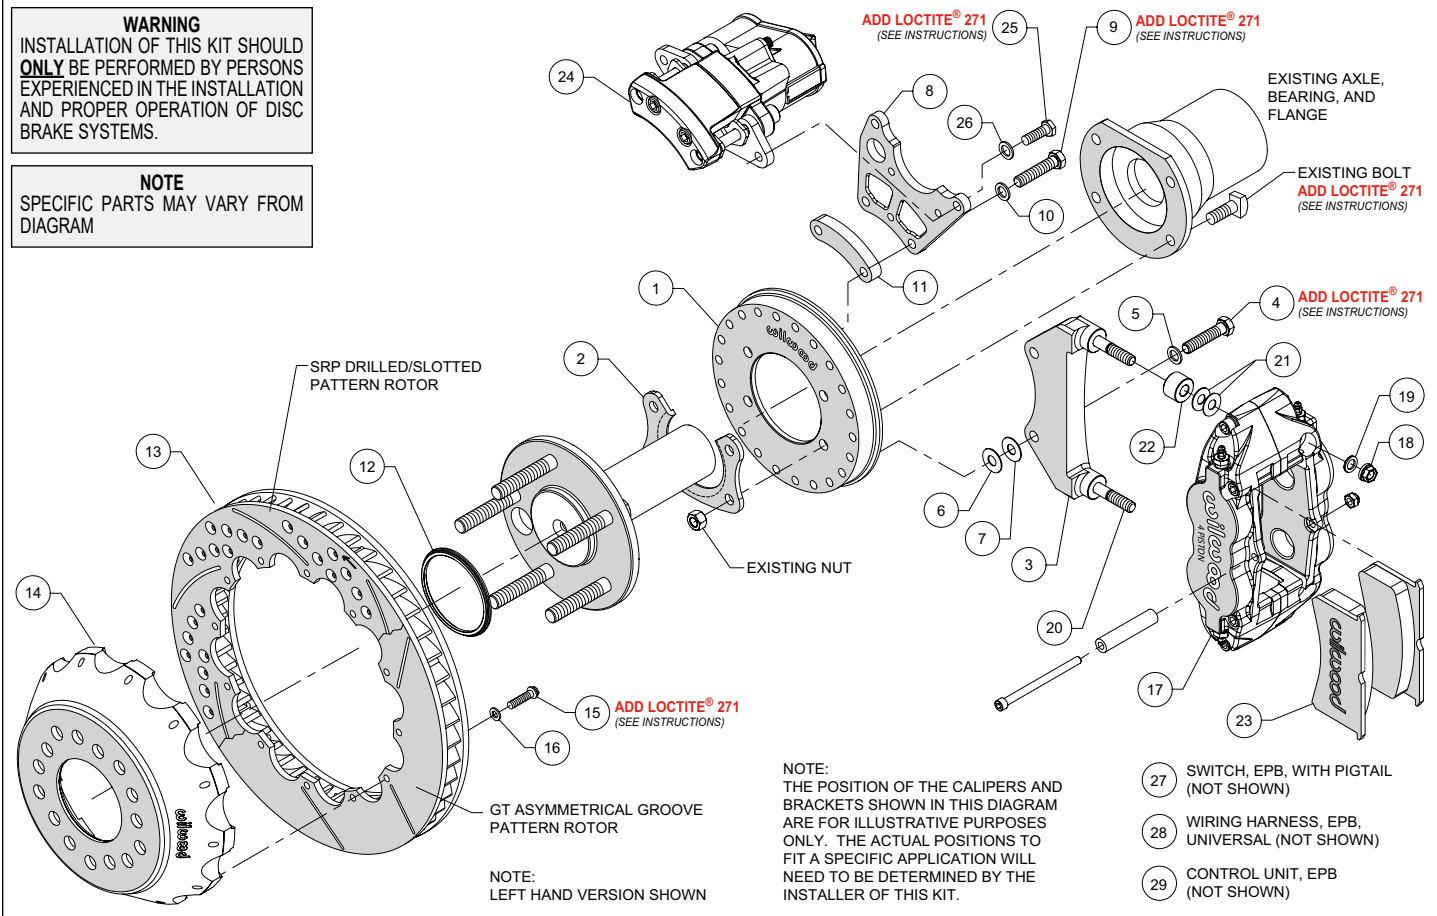
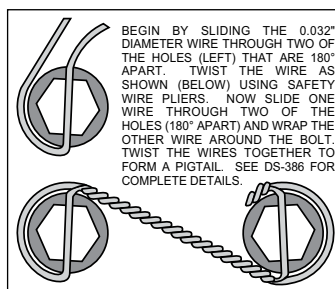

Figure 1. Typical Installation Configuration
Figure 5. Safety Wire Diagram
NOTE: Numbers in parenthesis refer to the parts list and Figure 1 on the preceding pages.
- Orient the backing plate (1) as shown in Figure 1 and Photo 1, and slide it onto the axle housing flange. Ensure the backing plate fits flush against the axle housing flange. Reinstall the axle into the axle housing.
- Install the bearing retainer (2) with the opening pointing upward and the lip facing inward (toward the bearing), as shown in Figures 1 and 4, and Photo 2. Secure retainer and backing plate to the axle housing flange using the Original Equipment Manufacturer (OEM) bolts and nuts, Figure 1 and Photo 3. Apply red *Loctite*® 271 to the OEM bolt threads and torque to OEM specifications.
- Start by determining the best location for the service caliper (17). This caliper is usually mounted in the 3:00 or 9:00 o'clock position, but may be rotated up or down approximately 45 degrees and still allow for proper bleeding, Photo 4. Orient the service caliper bracket (3) as shown in Figure 1 and Photo 5, and install to the backing plate (1) in the desired location using bolts (4) and washers (5). Temporarily tighten bolts. Next, mount the service caliper onto the bracket. Mount the service caliper using lock nuts (18) and washers (19), Figure 1. Temporarily tighten the lock nuts. Check that the caliper (including inlet fitting and hose) has sufficient clearance to all surrounding components through the full suspension travel. Relocate the caliper/bracket on the backing plate as needed to ensure proper clearance is achieved.
- Determine the best location for the EPB caliper (24). **NOTE:** *The EPB caliper motor extends farther inboard than the service caliper and therefore needs additional consideration when determining a mounting location with sufficient clearance.* In the example application shown in Photo 6, the EPB caliper has sufficient inboard clearance to the leaf spring. However, if the EPB caliper were mounted closer to the 12:00 o'clock position, the inner body of the vehicle would hit the caliper during full compression of the suspension.
•Orient the EPB caliper bracket (8) as shown in Figure 1 and Photo 7, and install to the backing plate (1) in the desired location using bolts (9), washers (10), and spacer (11). Temporarily tighten bolts. **NOTE:** The EPB bracket is reversible. In one direction the bracket will position the EPB caliper closer to the service caliper, and vice versa if reversing the bracket. Next, mount the EPB caliper (24) to the bracket using bolts (25) and washers (26). Temporarily tighten bolts. **NOTE:** EPB calipers are Left and Right handed, however they can be used on either side of the vehicle to best suit your specific application. Check that the EPB caliper (including wiring harness connector) has sufficient clearance to all surrounding components through the full suspension travel. Relocate the EPB caliper/bracket on the backing plate as needed to ensure proper clearance is achieved.
•Once the caliper positions have been determined, remove both the service (17) and EPB (24) calipers, leaving both brackets in place on the backing plate. For the EPB bracket, remove the bolts one at a time, apply red Loctite® 271 to the threads, and torque to 35 ft-lb. The service caliper bracket will be final installed after shimming is determined.
•Orient the rotor (13) and the hat (14) as shown in Figure 1 and Photo 8. Attach rotor to hat using bolts (15) and washers (16). Apply red Loctite® 271 to the bolt threads and torque to 155 in-lb using a criss-cross pattern. For an added measure of security, the bolts may be safety wired using standard 0.032 inch diameter stainless steel safety wire as shown in Figure 5. Please refer to Wilwood's data sheet DS-386 (available at www.wilwood.com/Pdf/DataSheets/ds386.pdf) for complete safety wire installation instructions.
•Initially place two .035" thick shims (21) and one spacer (22) on each stud of the service caliper bracket (3) as shown in Figure 1 and Photo 10. Mount the caliper onto the bracket using lock nuts (18) and washers (19), Figure 1. Temporarily tighten the lock nuts and view the rotor through the top opening of the caliper. The rotor should be centered in the caliper, Photo 11. If not, adjust by adding or subtracting shims (6 and/or 7) between the service caliper bracket (3) and the backing plate (1). Always use the same amount of shims on each of the two mounting bolts. Once the caliper alignment is correct, remove the bracket mounting bolts (4) one at a time, apply red Loctite® 271 to the threads, and torque bolts to 35 ft-lb.
- Mount the EPB caliper (24) onto the caliper mounting bracket (8) using bolts (25) and washers (26), Figure 1. Apply red *Loctite*® 271 to bolt threads, and torque to 30 ft-lb.
• **NOTE:** The service caliper (17) in this brake kit utilizes a 1/8-27 NPT pipe thread inlet. OEM rubber brake hoses generally cannot be adapted to Wilwood calipers. The preferred method is to use steel adapter fittings at the caliper, either straight, 45 or 90 degree (use PTFE tape on pipe threads of adapter fitting for proper sealing to caliper) and enough steel braided line to allow for full suspension travel. **Carefully route hoses to prevent contact with moving suspension, brake or wheel components.** **NOTE:** Wilwood hose kits are designed for use in many different vehicle applications and it is the installer's responsibility to properly route and ensure adequate clearance and retention for brake hose components. Wilwood offers universal brake flex line hose kits, domestic (3/8-24 IF) chassis fittings, order: